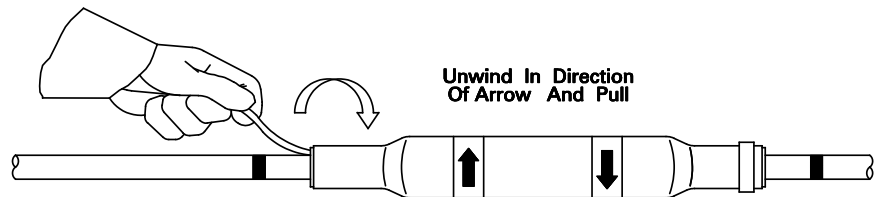

Figure 10
4. **Shrink the Body** – Steadily pull on the plastic cord, unwinding it around the conductor in the direction shown by the arrow on the cold shrink body. As the cord is pulled, it wraps around the conductor 1 or 2 times, and must be unwound before pulling again. Refer to the following, Figure 10.